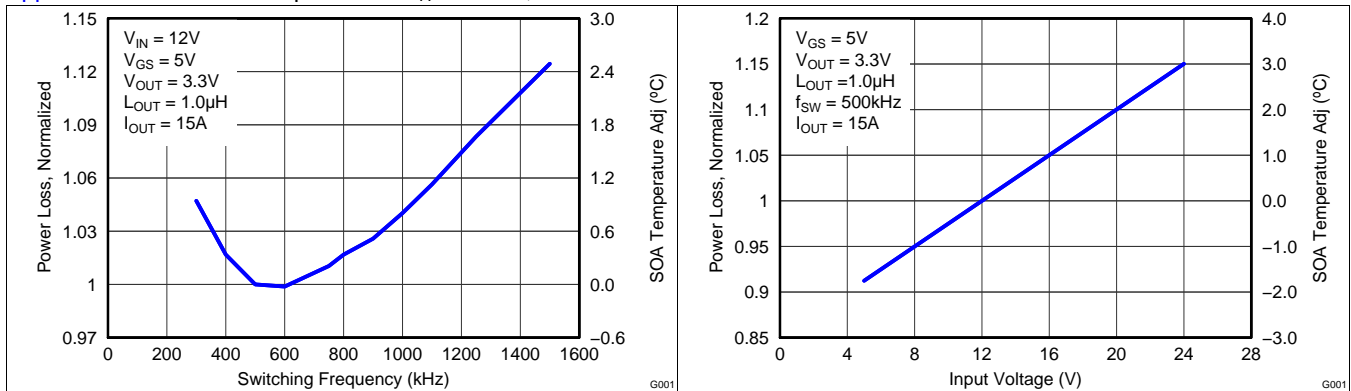

Figure 6. Normalized Power Loss vs Switching Frequency
- Normalized power loss for switching frequency  $\approx$  1.04 (Figure 6)
- SOA adjustment for switching frequency  $\approx$  0.8°C (Figure 6)